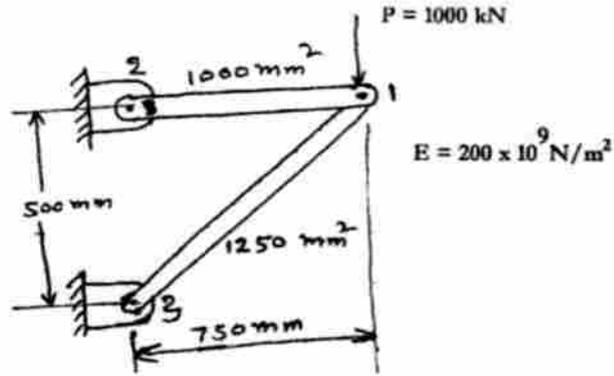

Figure 2
12. A). For the pin-jointed truss structure as shown in figure 2 below, determine global stiffness matrix, nodal displacements and element stresses. 10M